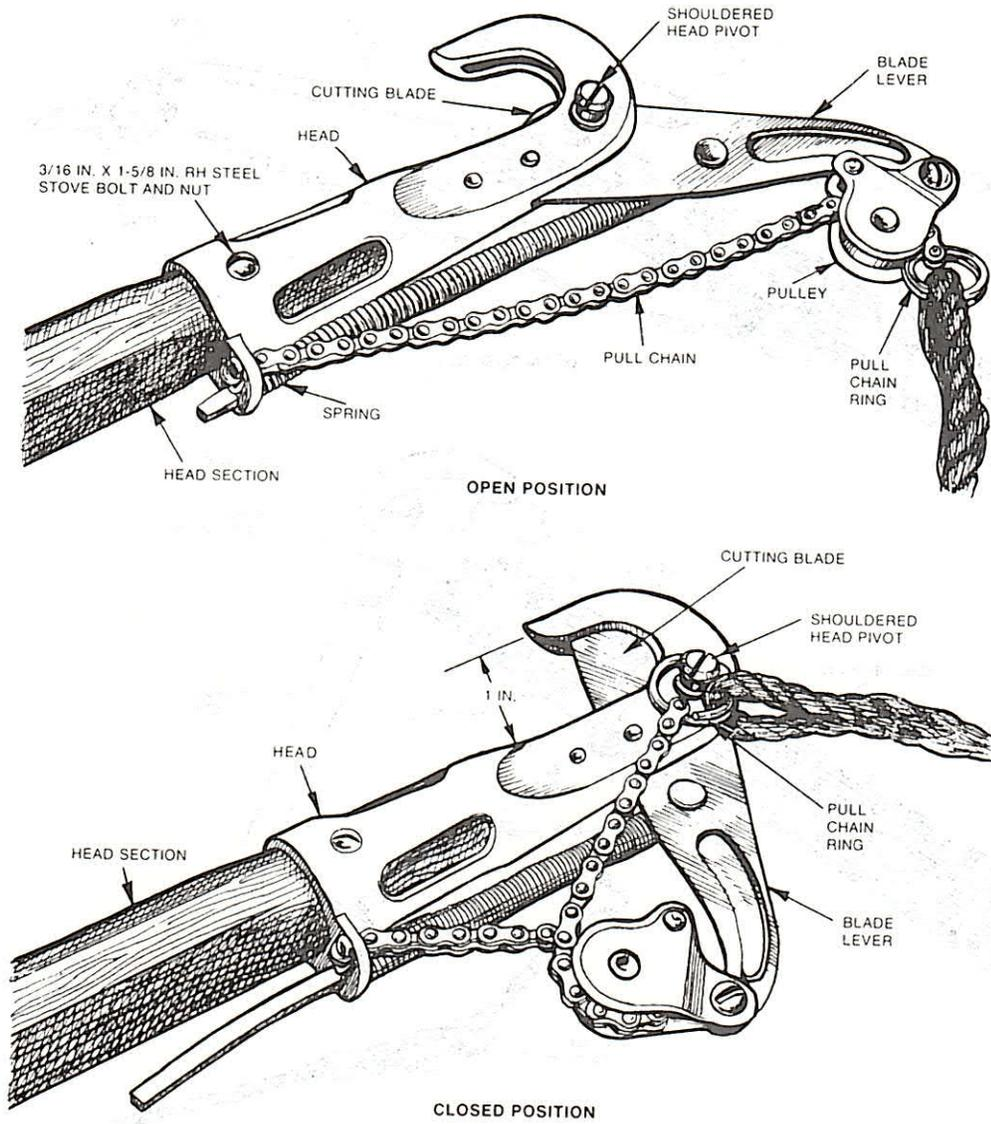
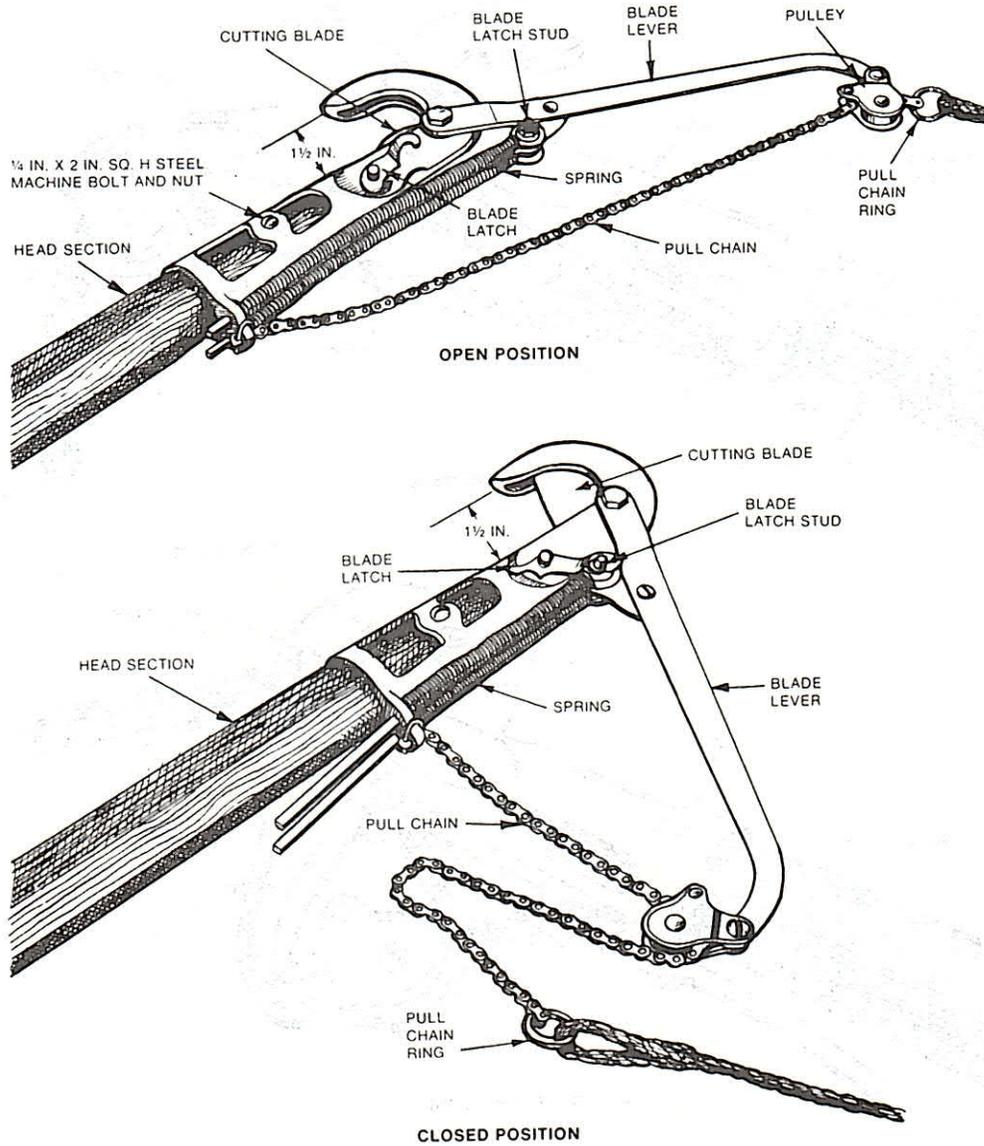

Fig. 5—B Tree Pruner Head—Open and Closed Position
Fig. 6—C Tree Pruner Head—Open and Closed Position
8.03 The B Tree Pruner Head (Fig. 5) is used with the small tree pruner handles and has a cutting capacity up to 1 inch. The C Tree Pruner Head (Fig. 6) is used with the large tree pruner handles and has a cutting capacity up to 1-1/2 inches.
8.05 The blade of the B Pruner can be locked in the closed position, as shown in Fig. 5, by slipping the pull chain ring over the shouldered head of the pivot bolt.
8.06 The blade of the C Pruner can be locked in the closed position, as shown in Fig. 6, by the blade latch which hooks over the blade latch stud.